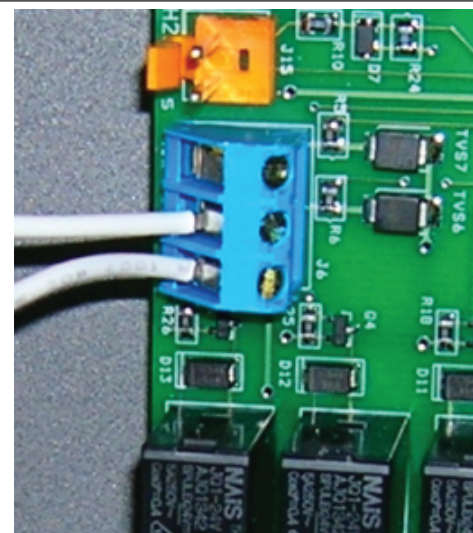

Figure 18. AquaLink® RS or Remote TSTAT Connection (2-Wire Connection)
4. Connect the wiring from the pool/spa control system to the heater remote control terminal (see Figure 18).